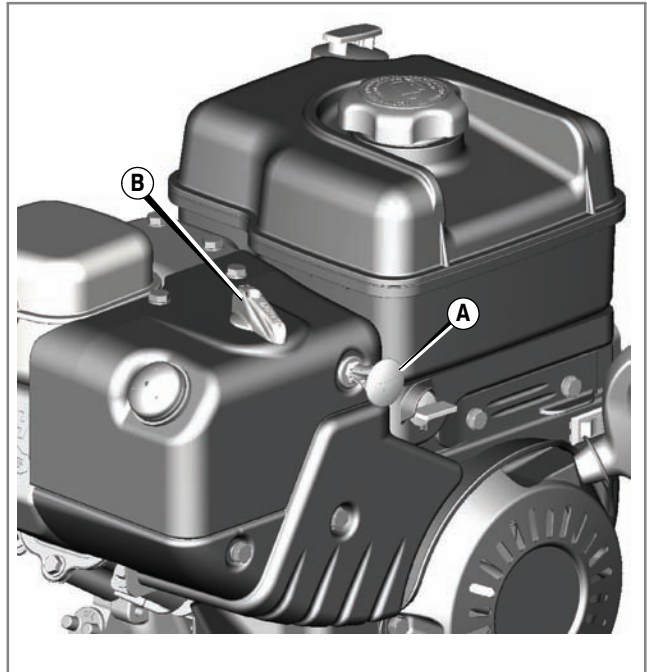
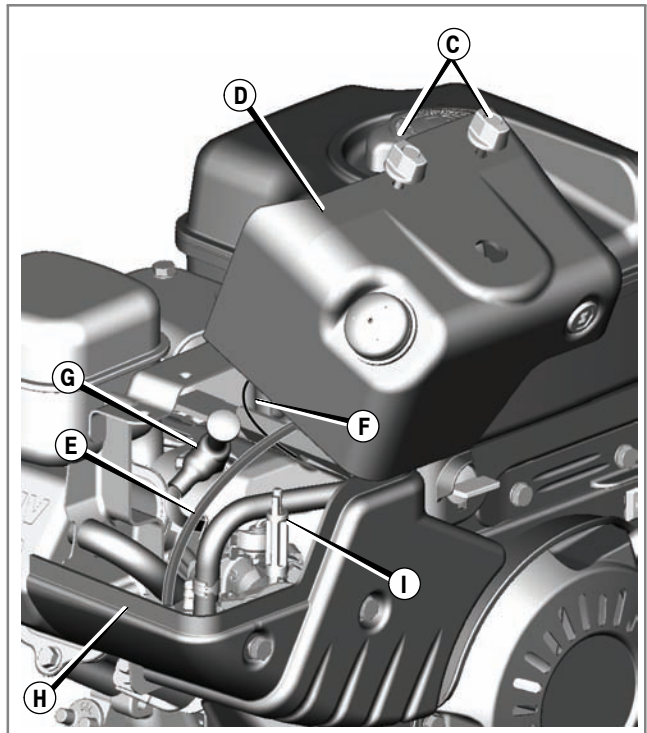

Figure 12
Figure 13
1. Remove the safety key (A). Keep the safety key out of reach of children. See Figure 12.
2. Grasp the choke control knob (B) and pull up to remove.
3. Remove the mounting screws (C, Figure 13).
4. Carefully remove the top part of the snow hood (D). Do not disconnect the primer hose (E) or the stop switch wire (F).
5. The spark plug (G) can now be accessed.
7. Mount the top part of the snow hood to the snow hood base (H). Make sure the top interlocks with the base. Secure with the mounting screws.
8. Align the slots in the choke control knob with the tabs on the choke shaft (I) and then push down to install. If the knob is not installed correctly, the choke will not operate.